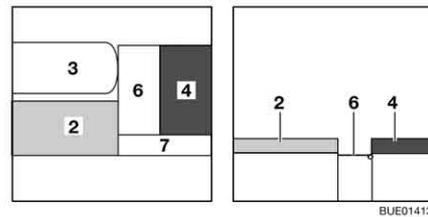
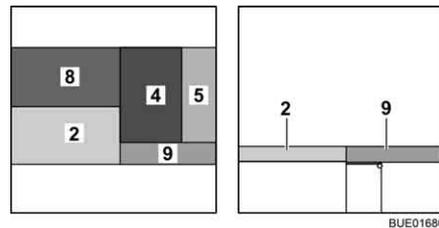

Fig. 121 During conversion
Fig. 122 After conversion
- Attach the bed widening (Fig. 121,7) to the bedding box and to the bedding box extension.
- Pull the seat cushion (Fig. 121,4) on the bedding box extension (Fig. 121,6).
- Place the back cushion (Fig. 122,5) between seat cushion and wall.
- Place the additional cushion (Fig. 122,8) on the table.
- Place the additional cushion (Fig. 122,9) on the bed widening (Fig. 121,7).